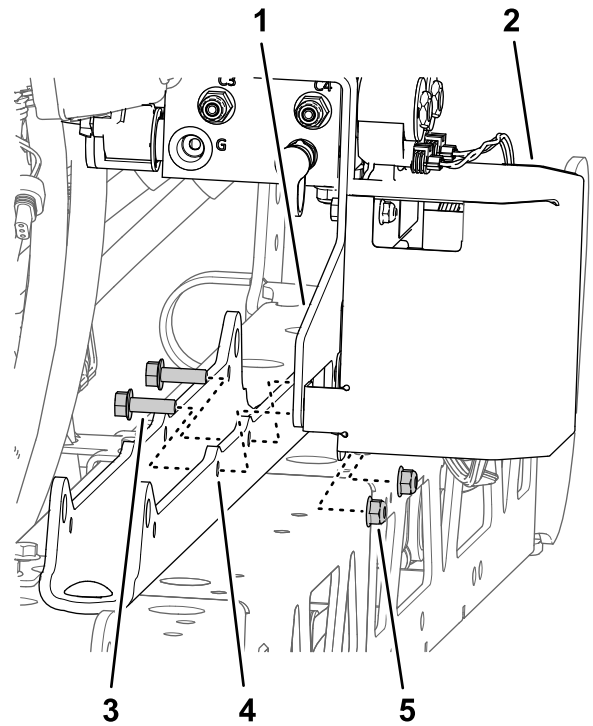

Figure 95
- B. Assemble the support bracket and TEC bracket to the cylinder mount (Figure 95) with the 2 flange-head bolt (5/16 x 1 inch) and flange locknut (5/16 inch) that you removed in step 1 of Removing the Section-Lift Manifold from the Center-Spray Section (page 21).